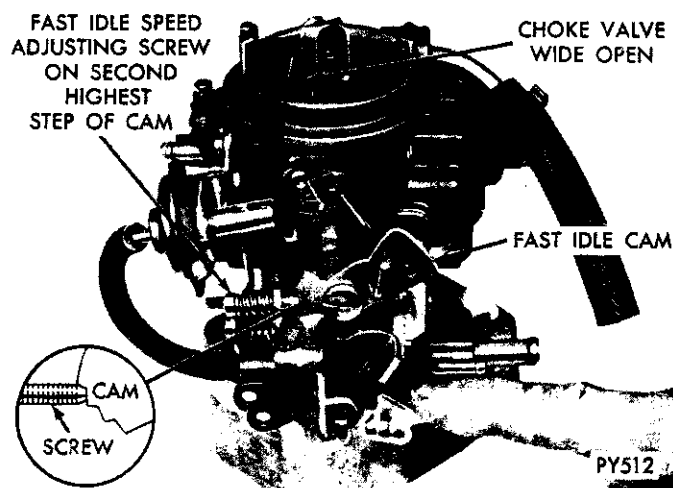

Fig. 13—Fast Idle Speed Adjustment (on Vehicle)
(1) With engine off and transmission in PARK or NEUTRAL position, open throttle slightly.
(2) Close choke valve until fast idle screw can be positioned on second highest-speed step of fast idle cam (Fig. 13).
(3) Start engine and determine stabilized speed. Turn fast idle speed screw in or out to secure specified speed. (See Specifications.)
(4) Stopping engine between adjustments is not necessary. However, reposition fast idle speed screw on cam after each speed adjustment to provide correct throttle closing torque.